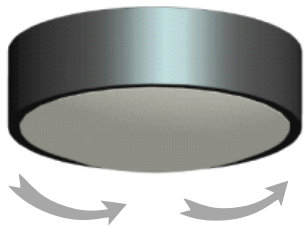

Fig 3.1
3.1 Remove the light assembly out of the box and turn the lampshade counterclockwise to disassemble it as shown in Fig 3.1, and then remove the LED light kit out of the light kit pan directly as light kit is fixed by magnetic attraction.